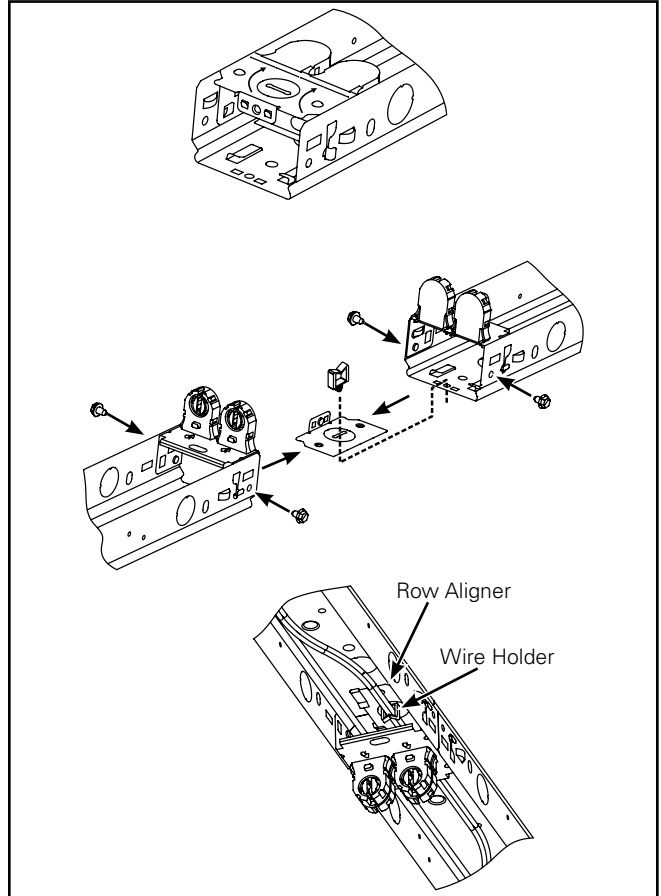

Figure 3.
1. Bend the row aligner and separate it from socket track (Figure 3).